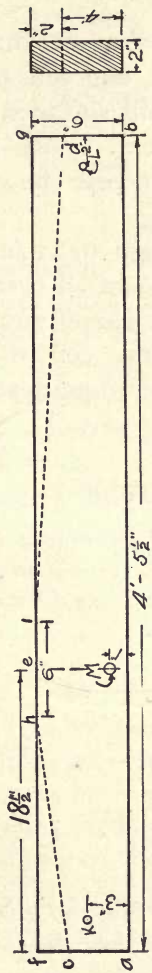
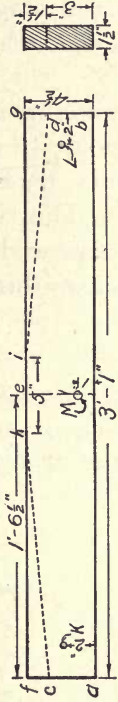
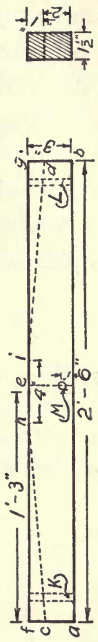

FIG. 94. — THREE HORSE EVENER.
FIG. 95. — DOUBLETREE.
FIG. 96. — SINGLETREE.
1. Laying out evener. — Lay out point *c*  $2''$  from point *f*, Fig. 94. Lay out point *d*  $2''$  from point *g* at the other end. Square across both ends at these points. Lay out point *e*  $18\frac{1}{2}''$  from *f* and square across one surface.  $3''$  from *e* on either side locate
2. **Laying out doubletree.** — Lay out point *c* 1½'' from point *f*, Fig. 95. Lay out point *d* 1½'' from point *g* at the other end. Square across both ends at these points. Lay out point *e* 1' 6½'' from each end and square across one surface. From *e* lay out points *h* and *i* 2½'' on each side. Connect points *c* and *h* with lines on both surfaces, also points *d* and *i*. Locate holes at *K* and *L* by measuring in from both ends 2'' and up from the lower edge 2''. Locate hole at *M* 1'' up from the lower edge on line squared across from *e*.
3. **Laying out singletrees.** — Lay out *c* 1'' from *f*, Fig. 96, and *d* 1'' from *g*, and square across the ends at these points. Lay out *e* 1' 3'' from each end and square across one surface. 2'' on either side of *e* locate *h* and *i*. Connect *c* and *h* with lines on both surfaces; connect also *d* and *i*. Locate hole *M* by measuring up from lower edge 1'' on line squared across from *e*. If hooks as shown in Fig. 208, page 233, are desired, then locate the holes shown in the drawing. If hooks as shown in Fig. 209, page 234, are wanted, then the ends of the singletrees should be rounded to fit the same, or 1¾'' in diameter.
4. **Sawing and boring.** — Bore ¾'' holes at *K* and *L* and 1'' hole at *M* (Fig. 94). Bore ½'' holes at *K* and *L* and ¾'' hole at *M* (Fig. 95). Bore ½'' hole at *M* (Fig. 96).
Rip along the lines *ch* and *di* in Figs. 94, 95, 96, and plane smooth.